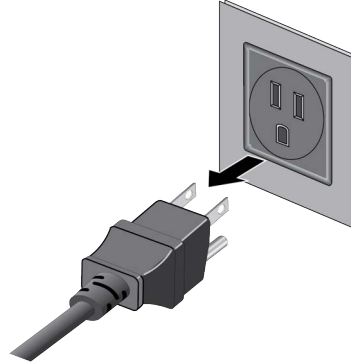

Figure 74. Powering Off the Switch
1. Power off the switch by disconnecting its AC power cord from the AC power source. Refer to Figure 74.